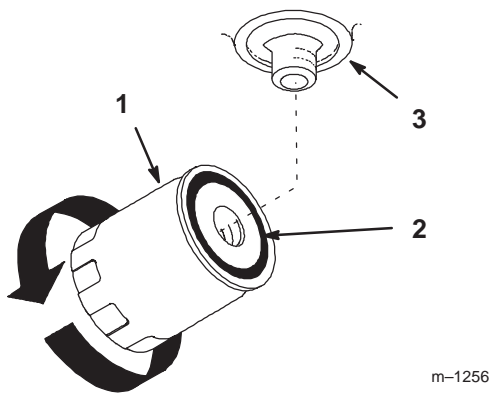

Figure 37
3. Apply a thin coat hydro fluid to the rubber gasket on the replacement filter (Fig. 37).
6. When fluid overflows filter turn the oil filter clockwise until the rubber gasket contacts the filter adapter, then tighten the filter an additional 1/2 turn (Fig. 37).